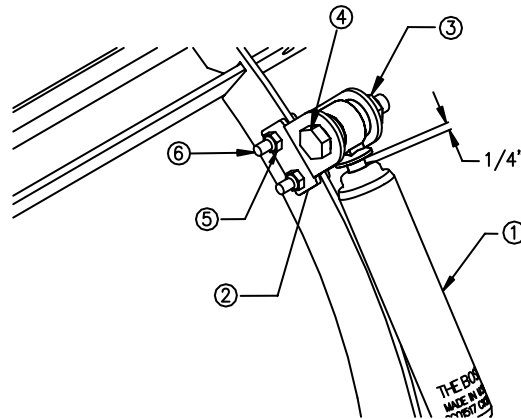

Figure 4. Final Setup and Tightening of the Hardware.
- 8) Locate the two holes in the rib of your Straight Blade. Align the small holes in Blade Shock Mounts (2) with the holes in the rib of the snowplow as shown in Figure 4. You must have one Blade Shock Mount (2) on each side of the rib. Attach with two 3/8"-16 x 1 1/2" Hex Head Cap Screws (6) and two 3/8"-16 Nylon Lock Nuts (5). Leave hardware finger tight.
- 9) Before tightening the hardware, it is advised that you extend Shock Absorber (1) to reveal approximately 1/4" of the rod as shown in figure 4. This will prevent Shock Absorber (1) from bottoming out when the blade rotates back after tripping. Keeping the shock extended, fully tighten 3/8"-16X1-1/2" Hex Head Cap Screws (6) and 3/8"-16 Nylon Lock Nuts (5).
- 10) Tighten 5/8"-11X3" Hex Head Cap Screws (4) and 5/8"-11 Oval Top Lock Nuts (3) holding both ends of Shock Absorber (1) in place. Do not over-tighten these bolts as it may cause damage to Shock Absorber (1) or to the components of the plow. 5/8"-11X3" Hex Head Cap Screws (4) should have no more than 1/2" of thread showing beyond the nut after you have tightened them.